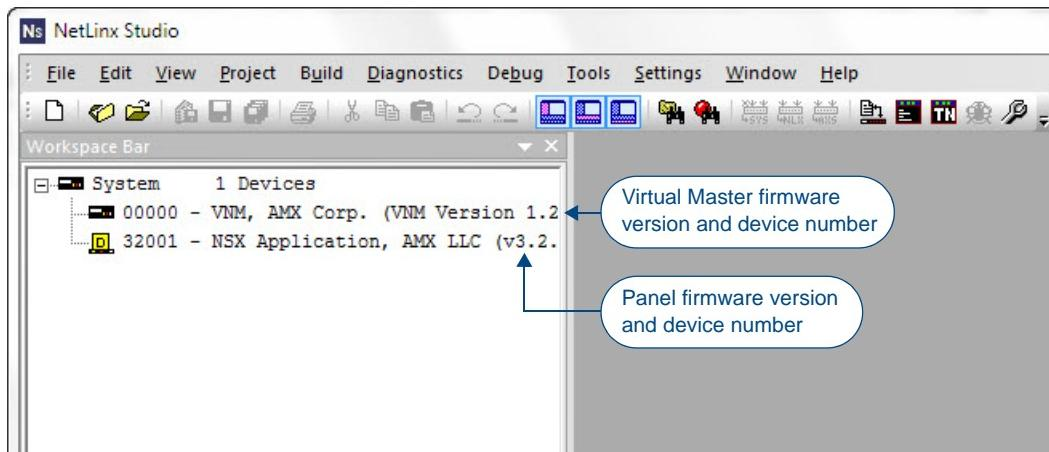

FIG. 32 NetLinx Workspace window (showing panel connection via a Virtual NetLinx Master)
- After the *Communication Verification* dialog window verifies active communication between the Virtual Master and the panel, click the **OnLine Tree** tab in the Workspace window (FIG. 32) to view the devices on the Virtual System. *The default System value is 1.*
- Right-click on the System entry (FIG. 32) and select **Refresh System** to re-populate the list. Verify the panel appears in the **OnLine Tree** tab of the Workspace window.